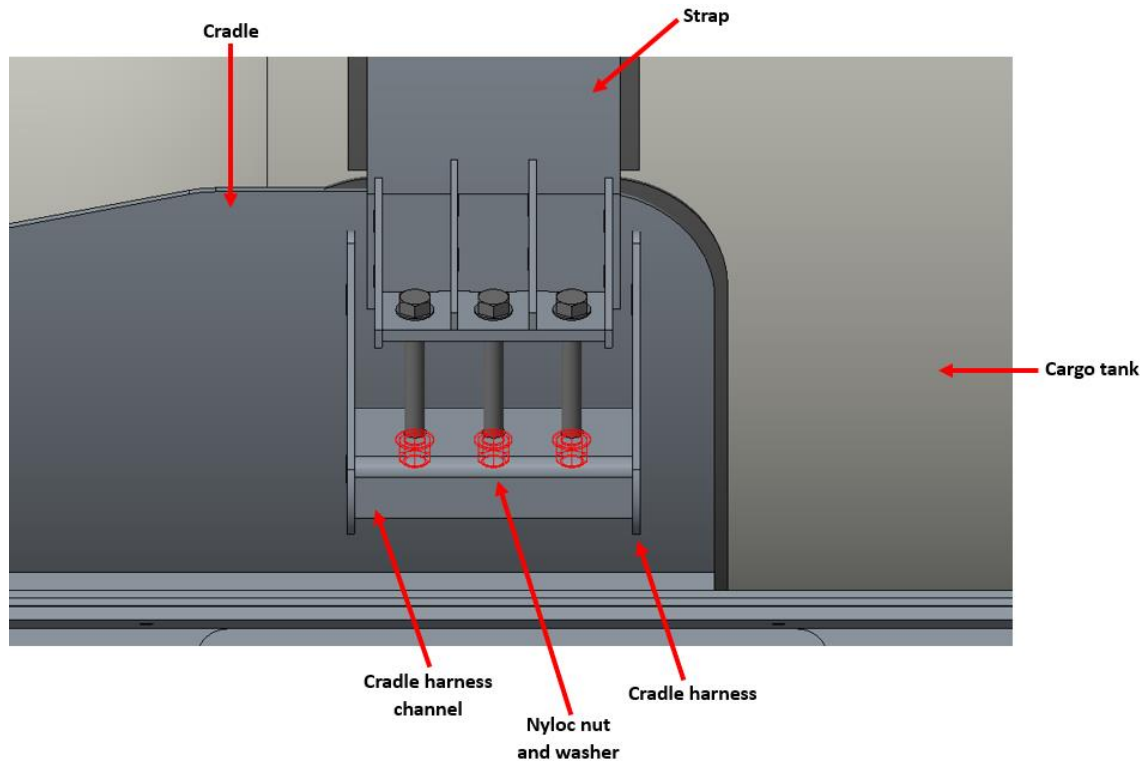

Figure 3: Diagram of cradle and strap
3. Remove the nyloc nuts and washers located on the underside of the cradle harness channel on Cradle 1. Refer to Figure 3 for nut location and cradle numbering.